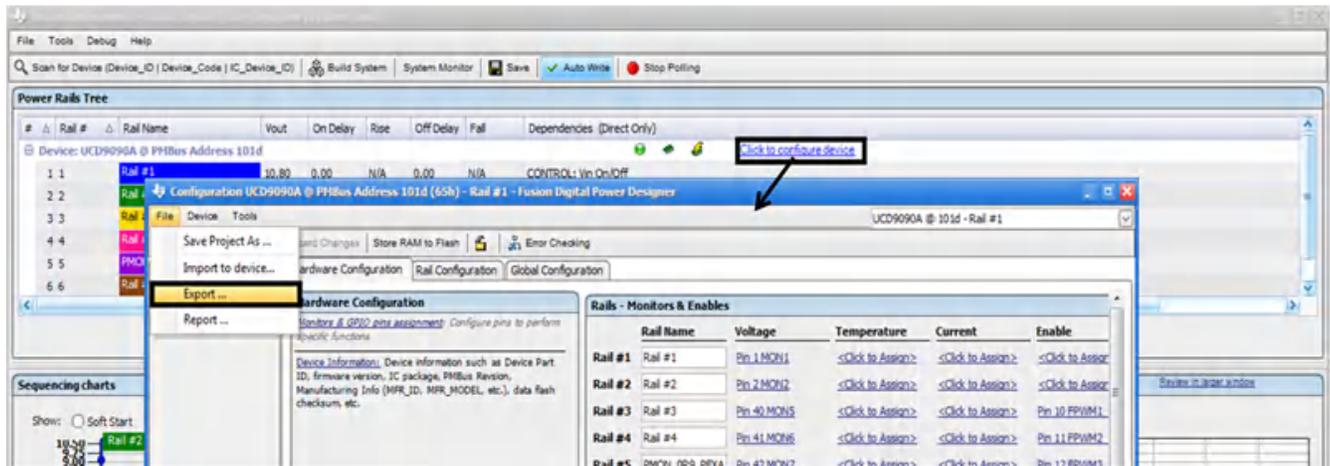

Figure 5. Fusion Digital Power Designer GUI Export Settings
3. Once you have successfully imported the project, use the export function from the Fusion Digital Power Designer GUI to regenerate the .csv/.hex file. See Figure 5.